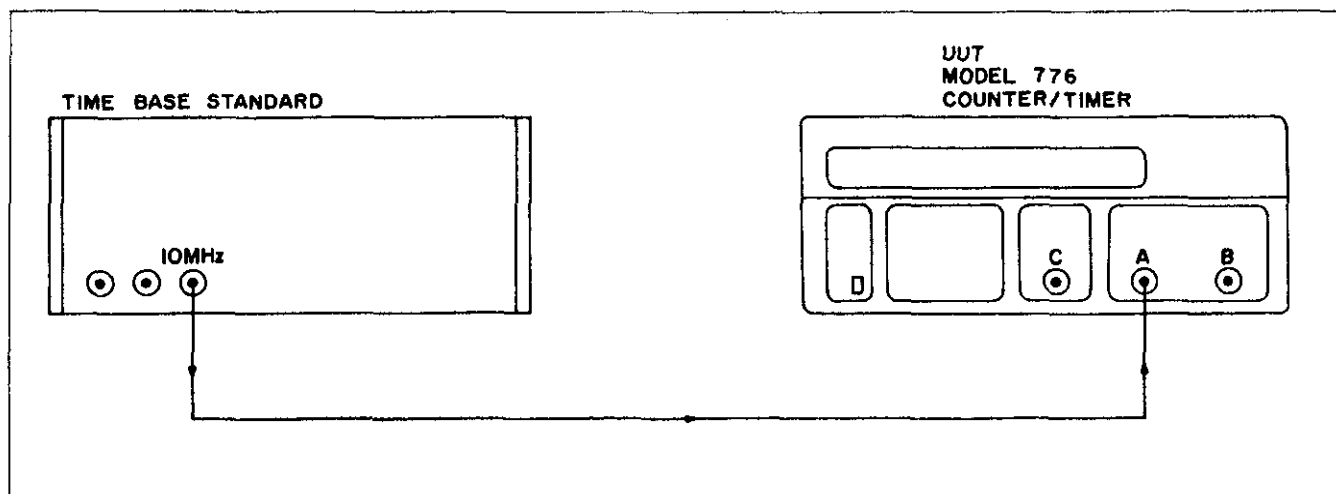

Figure 5-14. Time Base Accuracy Test Set-up.
1. Connect the test equipment as described in Figure 5-14.